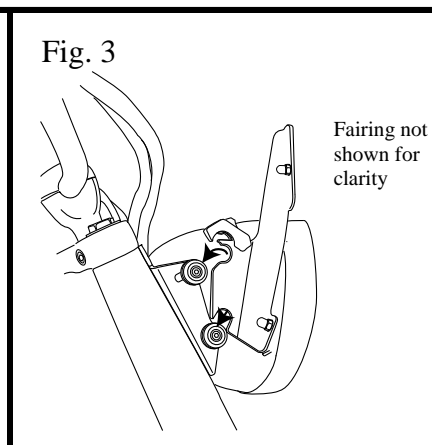

Fig. 3
8. Slip the fairing brackets into the bushings, adjust height and angle. Now tighten all mounting all bolts. (see fig. 3)